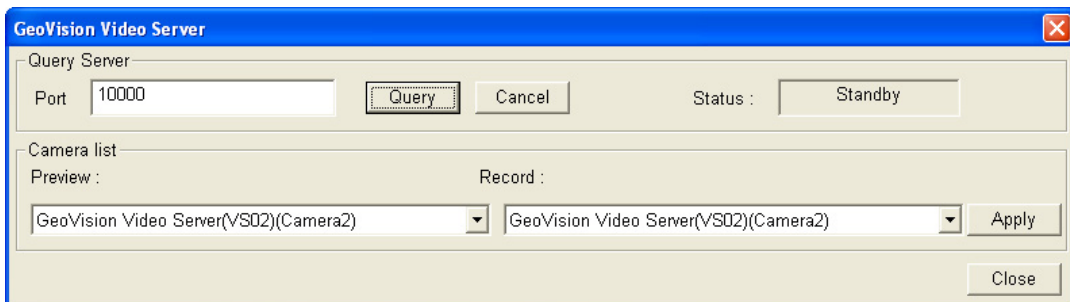

Figure 7-5
- **Preview dual stream record channel:** The option is only available when the dual stream is set, i.e. the cameras for live view and recording are configured differently (see Figure 7-5). Check this option for recording preview.